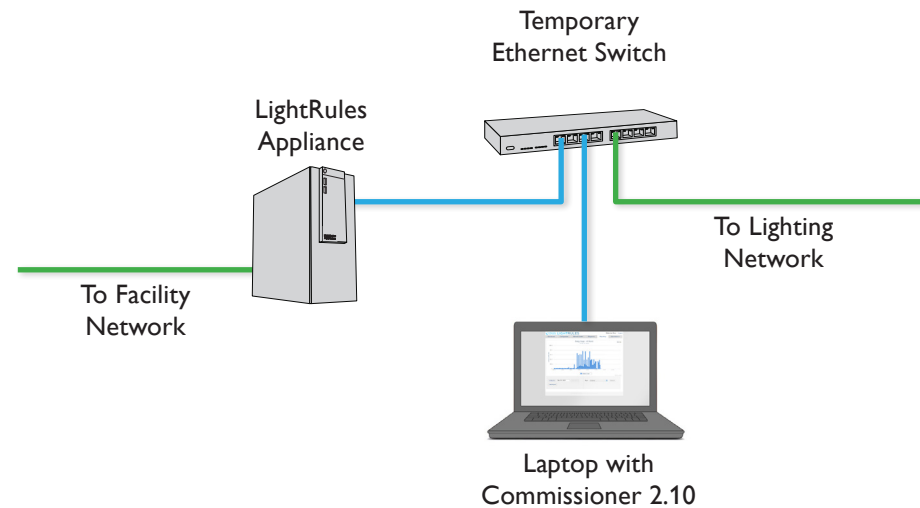

Figure 2: LRA set up for Lighting gateway operations
4. Connect an Ethernet patch cord from the port on the LRA labeled "lighting network" to the Ethernet switch (see *Figure 2*)
5. Connect your laptop to the Ethernet switch with an Ethernet patch cord (see *Figure 2*)
10. Disconnect the lighting network Ethernet cable from the Ethernet switch and plug it back into the port on the LRA labeled "lighting network" (see Figure 2)